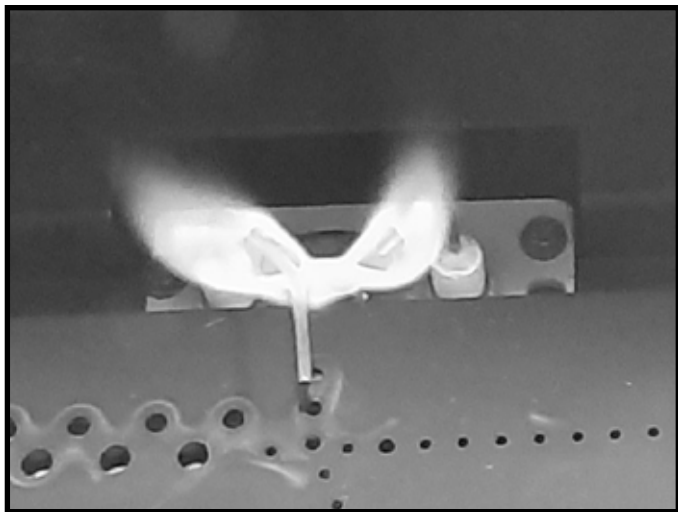

Figure 4.2 Pilot Flame
- Inspect pilot flame pattern and strength. See Figure 4.2 for proper pilot flame pattern. Clean or replace orifice spud as necessary.